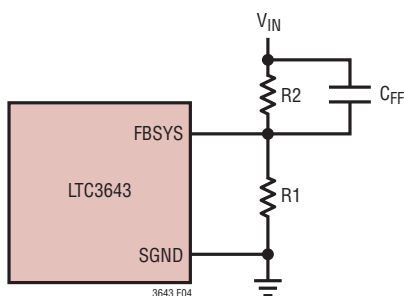

Figure 4. Setting The VIN Voltage In Step-Down Mode
**FBSYS (Pin 8):** Feedback Input to Step-Down Regulator Control Loop. Connect a resistor divider tap to this pin. The  $V_{IN}$  voltage can be adjusted such that  $V_{IN} = 0.6V (1 + R2/R1)$  (See Figure 4).